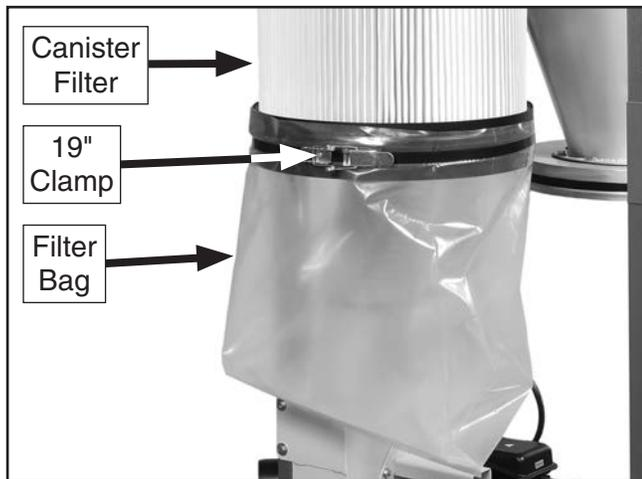

Figure 27. Filter bag attached to canister filter.
23. Place 18" x 23⁵/₈" filter bag around bottom of canister filter and secure with 19" metal clamp (see **Figure 27**).